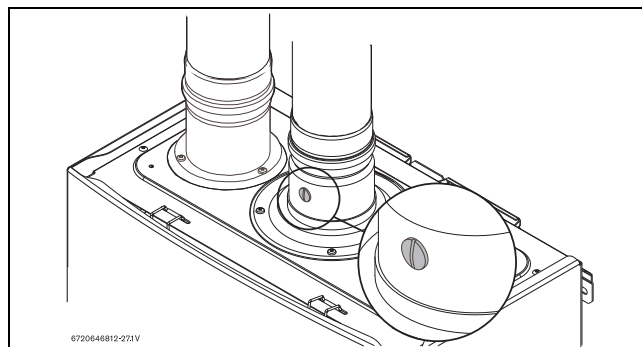

Fig. 71 Measuring port
- Remove brass flat head screw on the exhaust collar as seen in Fig. 71.